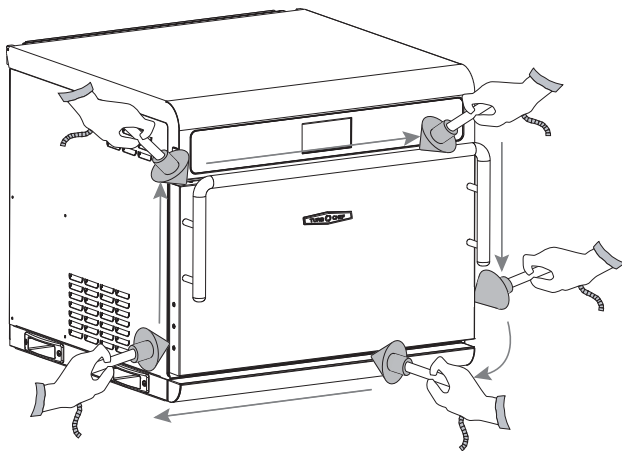

Figure 33: Survey Meter Placement
6. Position the microwave survey meter where the door seals to the oven frame, moving it while testing as shown in Figure 33.